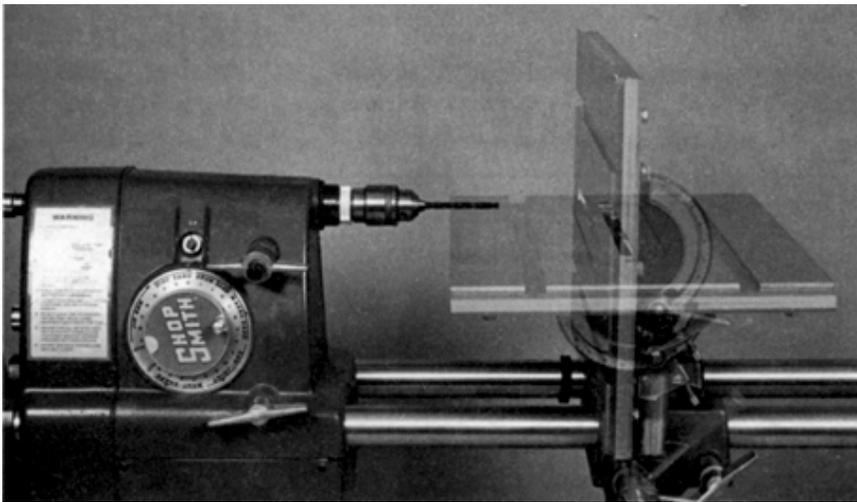

Figure 11-3. In the horizontal boring mode, the table tilts from 90-degrees left to "0".
- The table tilts from 90° left to "0" in this mode (Figure 11-3).